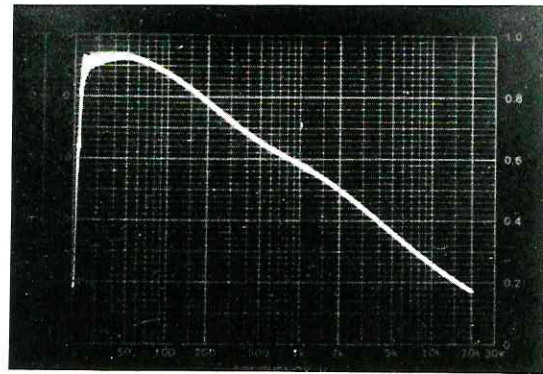

Fig. 5-15
(5) Measurement procedure
- Figure 5-15 shows an example of measurement.
- (2) Set the control functions as shown in Fig. 5-15.
- (3) Set the marker generator at 600kHz.
- (4) Adjust the frequency dial to get 600kHz beat marker signals.
- (5) Set the marker generator at 1400kHz. Adjust the WIDTH knob to get 1400kHz marker signals.
- (6) Set the marker generator to 600kHz again, and ensure the beat marker signals are displayed on the scope.
- (7) Set the receiver dial to 1400kHz while the marker generator frequency is 1400kHz. Adjust the oscillation frequency by variable control of the local oscillator capacity, so that the maximum detection output is obtained. Repeat the adjustments several times at 1400kHz and 600kHz.
- (8) Adjust the antenna side inductance and capacitance in the same manner.